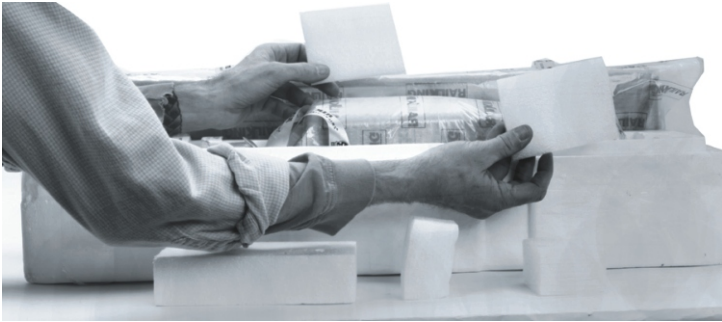

Figure 12
1. Remove the foam blocks shown in Fig 12.